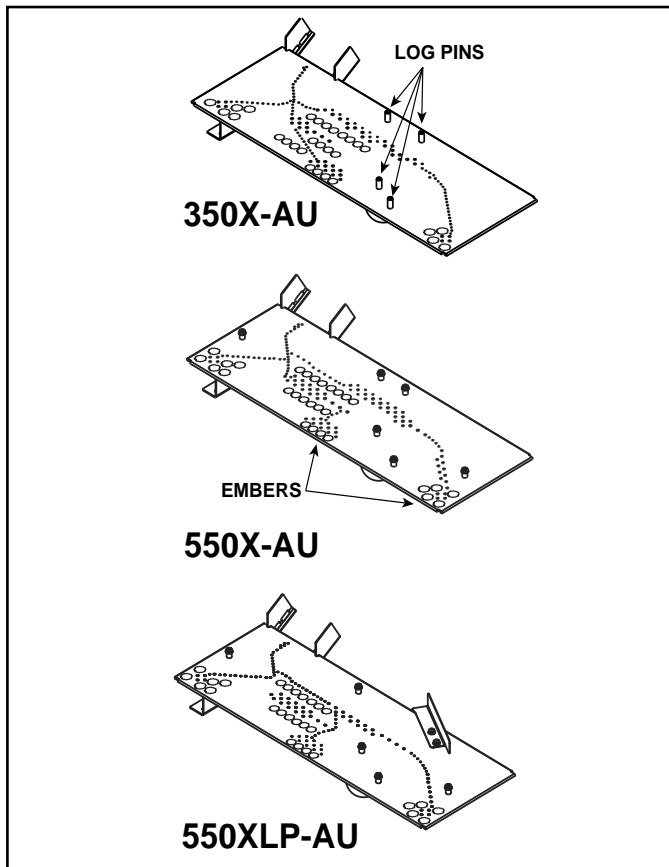

Figure 1. Log Pin and Glowing Ember Locations
The overall size and placement of the burner assembly within the firebox is very similar between all sizes. However, each burner top has different burner ports and log pin configurations. See Figure 1 for log pin locations.
- The rear left log, rear right log and small burner log utilize holes in the bottom side of the logs that correspond to the log pins on the burner. Reference Figure 1 and Figure 2.
3. Remove the Glowing Embers® from packaging and install the ember material as shown in Figure 1. Care should be taken to avoid placing ember material directly over ports and to avoid using excessive amounts of ember material.